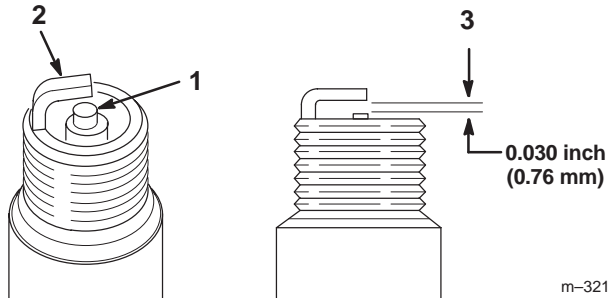

Figure 40
1. Look at the center of the spark plug(s) (Fig. 40). If you see light brown or gray on the insulator, the engine is operating properly. A black coating on the insulator usually means the air cleaner is dirty.
2. Check the gap between the center and side electrodes (Fig. 40). Bend the side electrode (Fig. 40) if the gap is not correct.